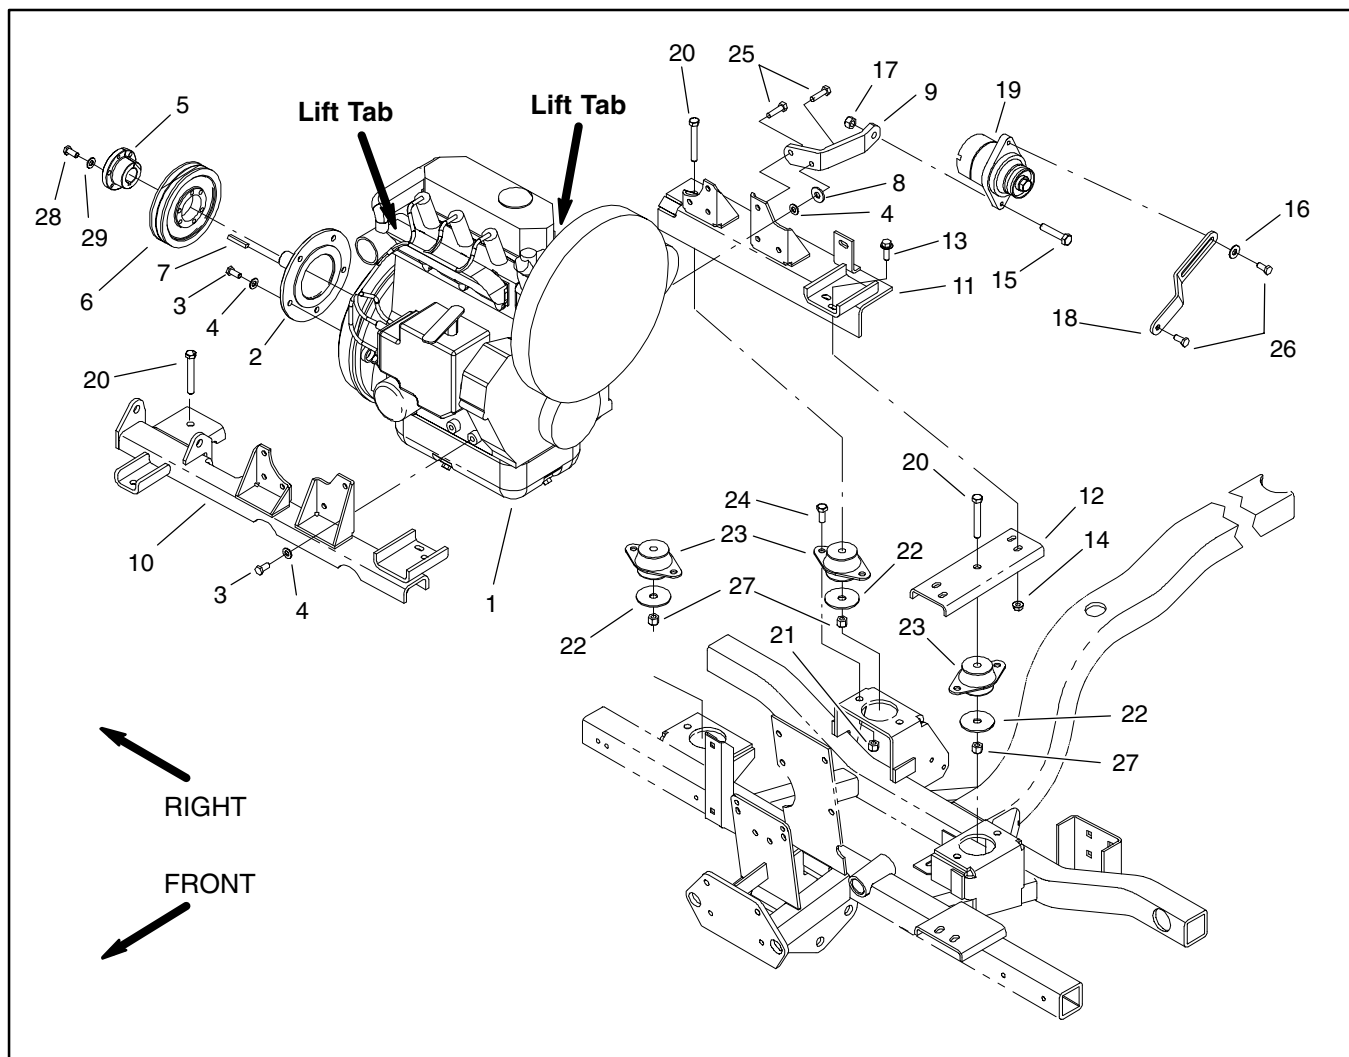
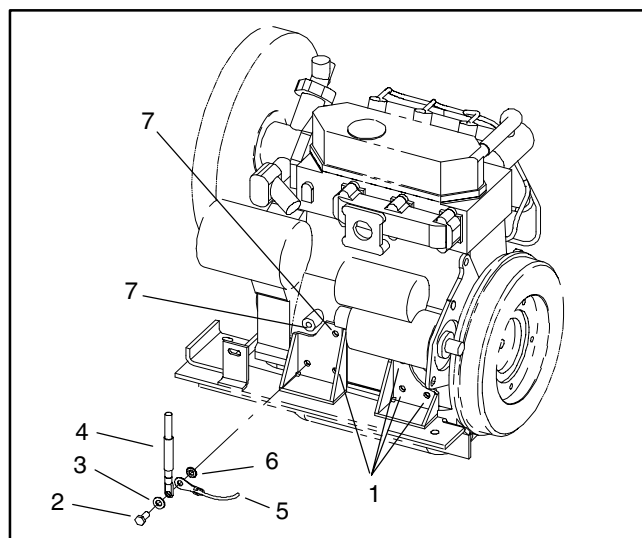

Figure 15
Figure 16
16. Remove engine from machine (Fig. 15).
3. If engine frames or channel were removed from the engine, reinstall them as follows (Fig. 15):
- B. For rear engine frame, secure RH frame bracket (closest to flywheel) to the engine with three cap screws and washers. Secure LH frame bracket with cap screw and washer in the lower RH hole (Fig. 16). Lower LH hole in LH bracket is location for electrical ground connections. Mount alternator bracket using longer cap screws; use hardened washer and flat washer as spacers between alternator bracket and engine block (Fig. 15).
- H. Connect negative battery cable and black engine wire harness ground wire to the LH bracket of the rear engine frame (Fig. 16).